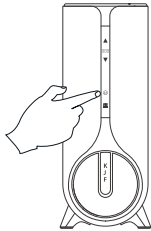

Figure 26
- (4) Hold the filter reset key on the system KJF for 5 seconds. When you hear the "beep" sound from the system, the filter has been successfully reset. The indicator lights of the front panel and faucet filter will turn blue (Figure 26).